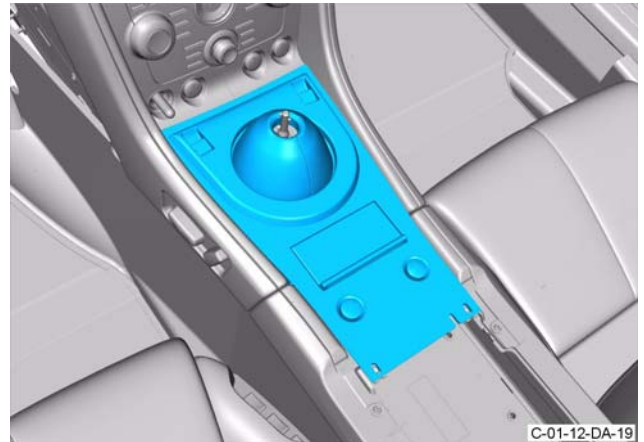

Figure C-01-12-DA-19
2. Connect the four electrical connectors to the switches (refer to Figure C-01-12-DA-18).